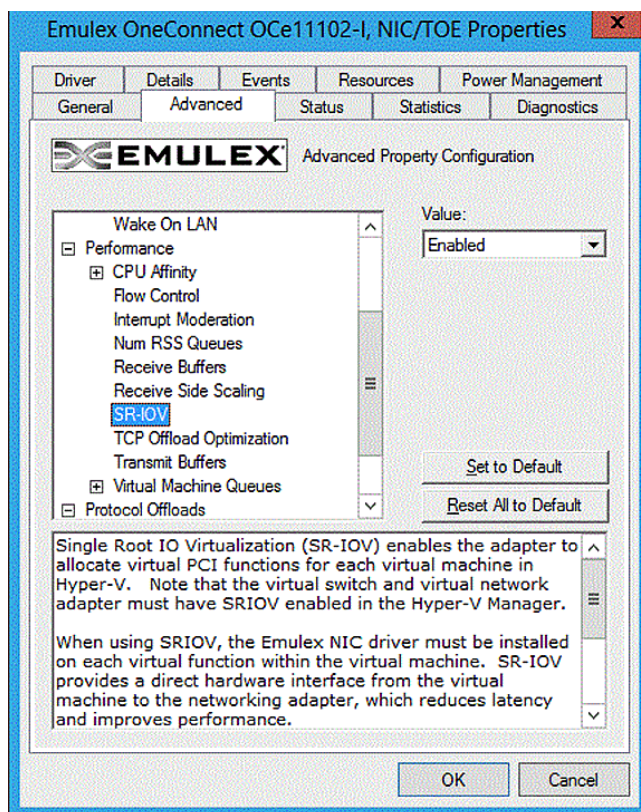

Figure 3-6 Emulex NIC Advanced Properties Page
4. Click the **Advanced** tab. The Advanced Property Configuration page opens (see Figure 3-6 on page 83).